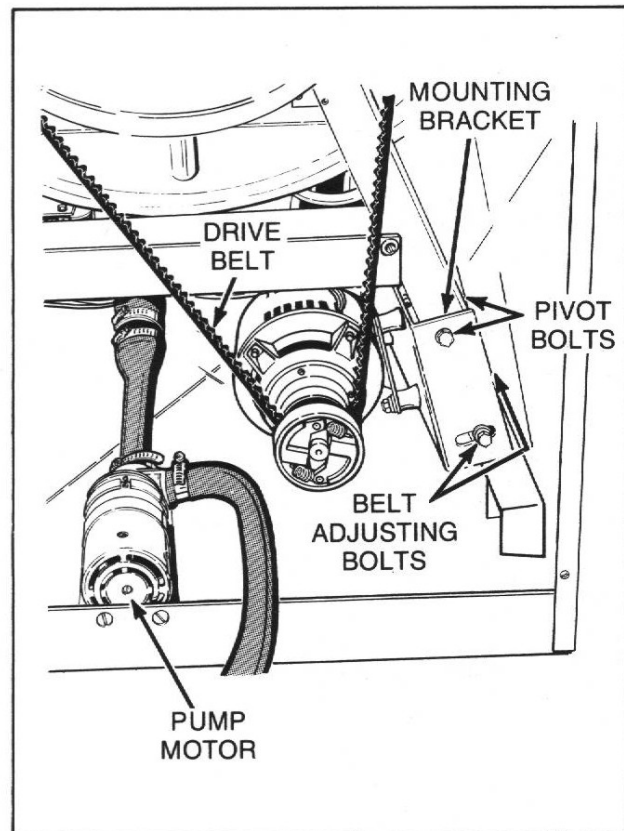

Figure 28
### 30. DRIVE MOTOR AND MOUNTING BRACKET (Refer to *Figure 28*)
- d. Disconnect hoses from pump, *Figure 28*.
- e. Remove two screws, nuts and lockwashers holding pump mounting bracket to washer base, *Figure 28*.